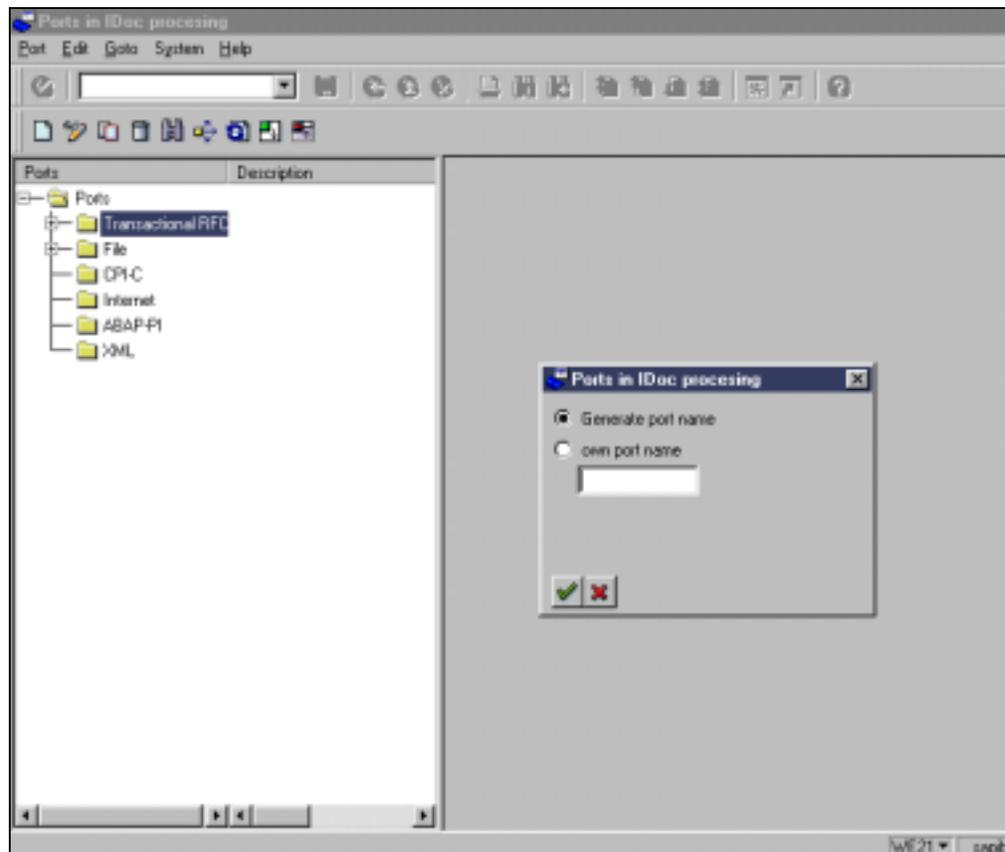

Figure 52: Selecting **Generate port name**
3. Select **Generate port name** as shown in Figure 52 and proceed.